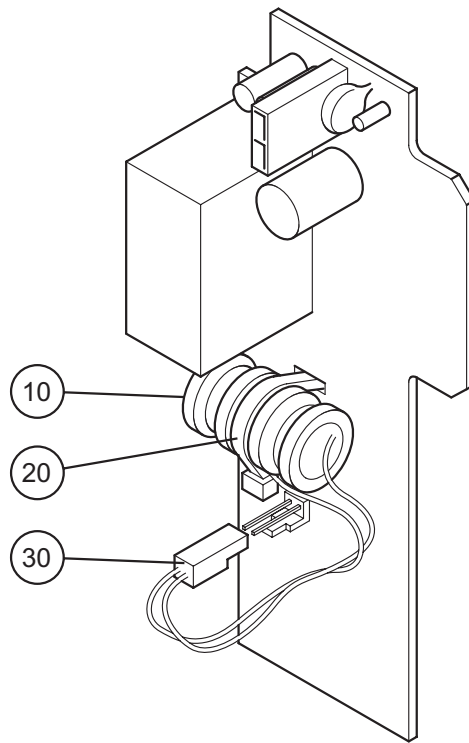

Figure 16 - Replacing the Power Failure Alarm Battery
31.2 Remove the battery plug (Fig 16, Item 30) from the PCB.
31.3 Cut and remove the cable tie (Fig 16, Item 20) and remove the battery (Fig 16, Item 10).